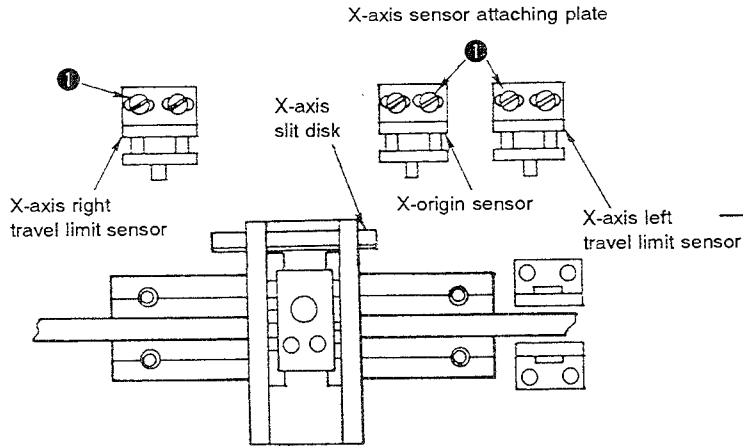
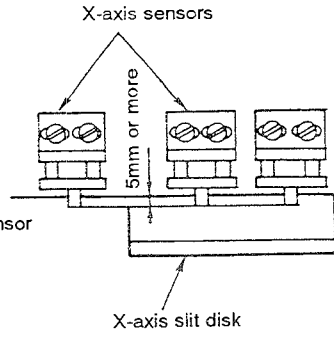

Fig. 5-33-6
Fig. 5-33-7
<p>A. Adjusting the X-axis origin and travel limit sensor</p> <ol style="list-style-type: none"> 1) Remove the feed bracket auxiliary covers (left and right), and feed bracket cover. 2) Make the adjustments described in steps 1), 3) and 4) of the "STANDARD ADJUSTMENT (33)-1, A." 3) Press jog keys 4◀, 6▶, 8▲ and 2▼ on the operation panel to move the feeding frame. Align the needle point with the ø0.5 drilled hole for origin of the origin gauge. (Fig. 5-33-5) 4) Loosen setscrews ①, and move X sensor attaching plate asm. to the left or right until display (E) showing the X origin changes from 1 to 0. Immediately after the display has changed, tighten setscrews ①. (Fig. 5-33-3, Fig. 5-33-5) 5) Press jog key 6▶ on the operation panel to move the feeding frame so that the needle point aligns with marker line V of travel limit *1. (Fig. 5-33-6, Fig. 5-33-3) 6) Loosen setscrews ①, and move X-axis right travel limit sensor attaching plate asm. to the left or right until display (F) showing the travel limit *1 changes from 1 to 0. Immediately after the display has changed, tighten setscrews ①. (Fig. 5-33-3, Fig. 5-33-6) 7) Press jog key 4◀ on the operation panel to move the feeding frame so that the needle point aligns with marker line V of travel limit *2. (Fig. 5-33-3) 8) Loosen setscrews ①, and move X-axis left travel limit sensor attaching plate asm. to the left or right until display (D) showing the travel limit *2 changes from 1 to 0. Immediately after the display has changed, tighten setscrews ①. <p>[Caution] After making the adjustments, make sure that the X-axis slit disk enters the center of the clearance between the sensor photo-couplers and that the slit disk overlaps the top end of the sensor photo-coupler by 5 mm or more, when the X-axis slit disk passes through the three X-axis sensors. (Fig. 5-33-7) If they do not, adjust the clearance between the slit disk and the photo-coupler referring to "C. Clearance between the slit disk and the photo-coupler." Note that you should adjust the overlapping depth simultaneously with step 4), 6) and 8).</p>	<ul style="list-style-type: none"> ○ If the origin has not been properly adjusted: The origin for inputting a pattern fails to align with the origin for sewing the pattern. ○ If the travel limit has not been properly adjusted: The sewing area may be narrower. The stepping motor fails to stop even when the mechanical travel limit has been reached. As a result, an abnormal noise may be produced. <p>[Caution] If the machine is operated under the condition mentioned above, the feed mechanism components might become damaged. Never operate the machine until the proper adjustments have been completed.</p>